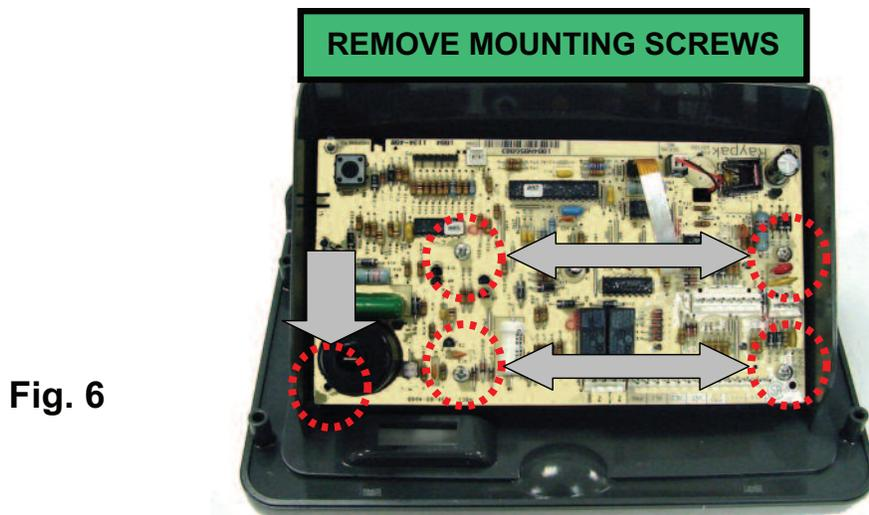

Fig. 6
3. Remove screws as shown in **Fig. 6**.